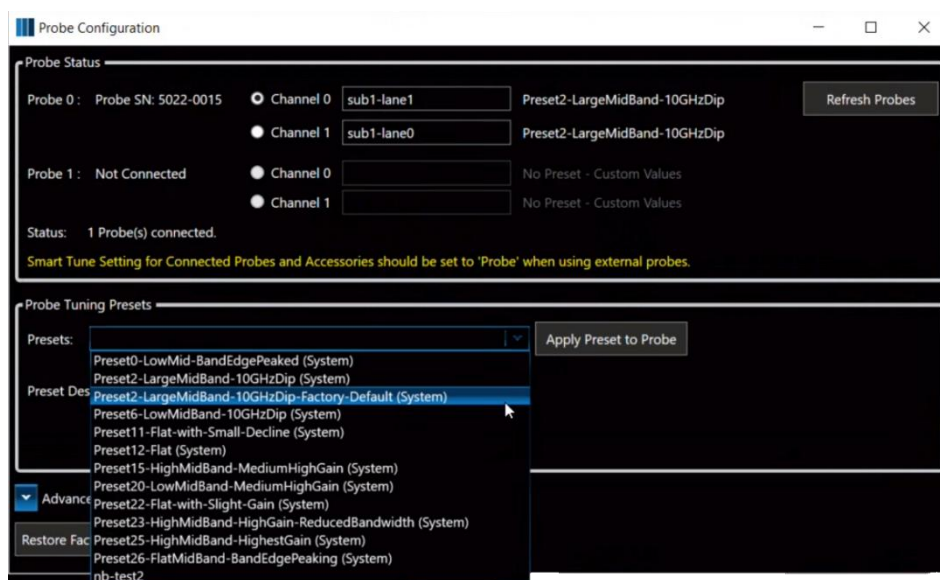

Figure 11 - Probe Software Configuration Dialog
The FG5PSD01E amplifier supports several preset configurations, as shown in Figure 11, and it also supports custom configuration of the gain parameters under Advanced Tuning, refer to Figure 12.
- b. On the FG5PSD01E amplifier you can select from one of the presets, Figure 11. Make sure you connect the amplifier to the host system using the USB-C connector, Figure 13.